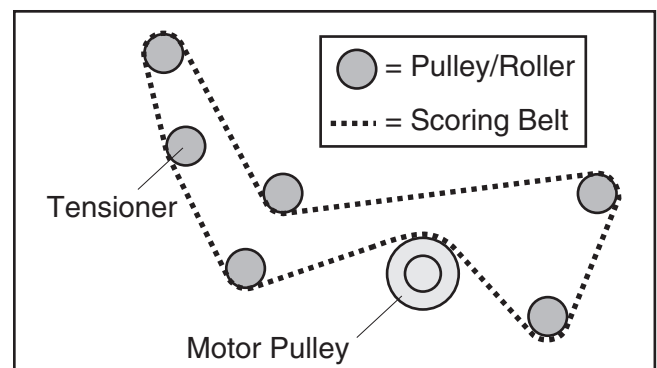

Figure 115. Scoring belt installation configuration.
5. Put the new scoring belt on the pulleys as shown in **Figure 115**, and push the tensioner against the scoring belt to take up any slack.